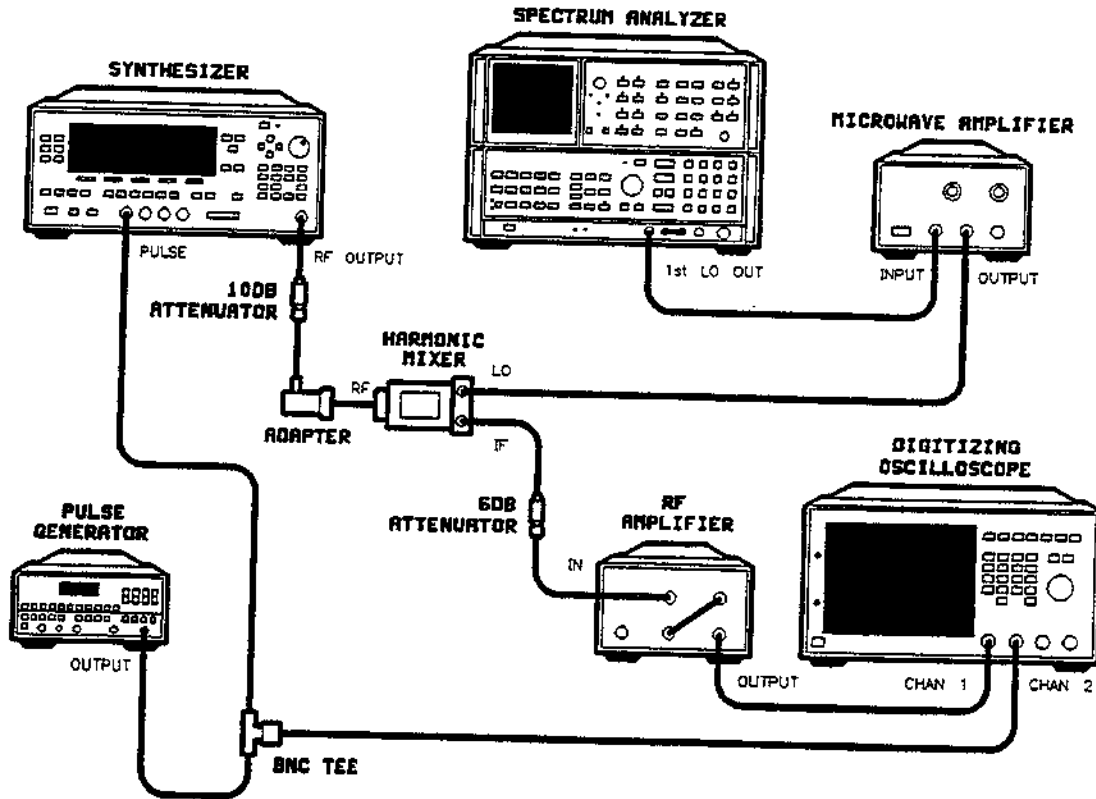

Figure 2-20. Pulse Performance Test Setup >20 GHz
25. Connect the equipment as shown in Figure 2-20 using the HP 11970K Mixer.